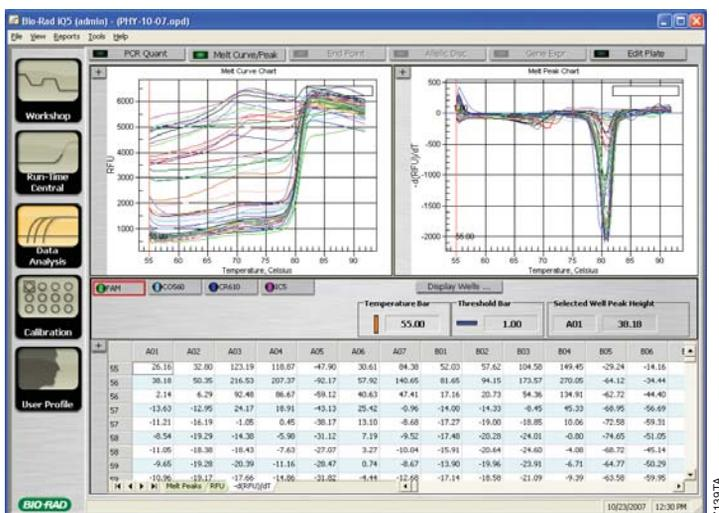

Figure 19. The Melt Curve/Peak tab of the iQ™5 Data Analysis module.
5. Return to the Data Analysis module in the iQ™5 software, and select the Melt Data/Curve tab. Select the  $-d(\text{RFU})/dT$  tab in the results spreadsheet section for the first dye (Figure 19).